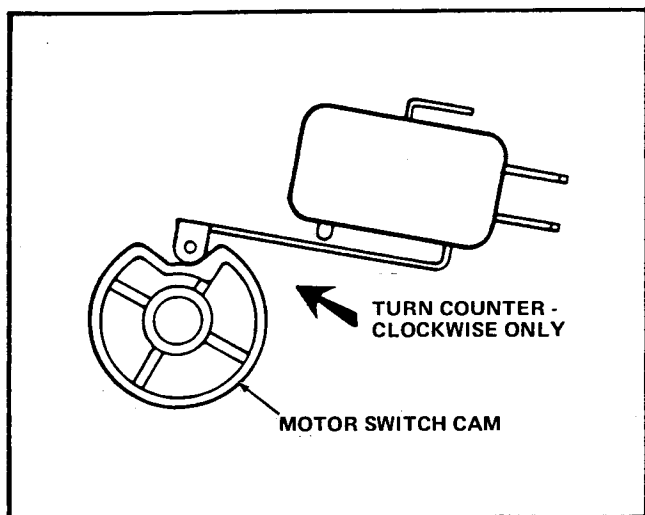

FIGURE 9
2. On the Escrow Unit Assembly, rotate the Motor Switch Cam counter-clockwise until the Switch Arm is on the flat side of the Cam as shown in Figure 9.